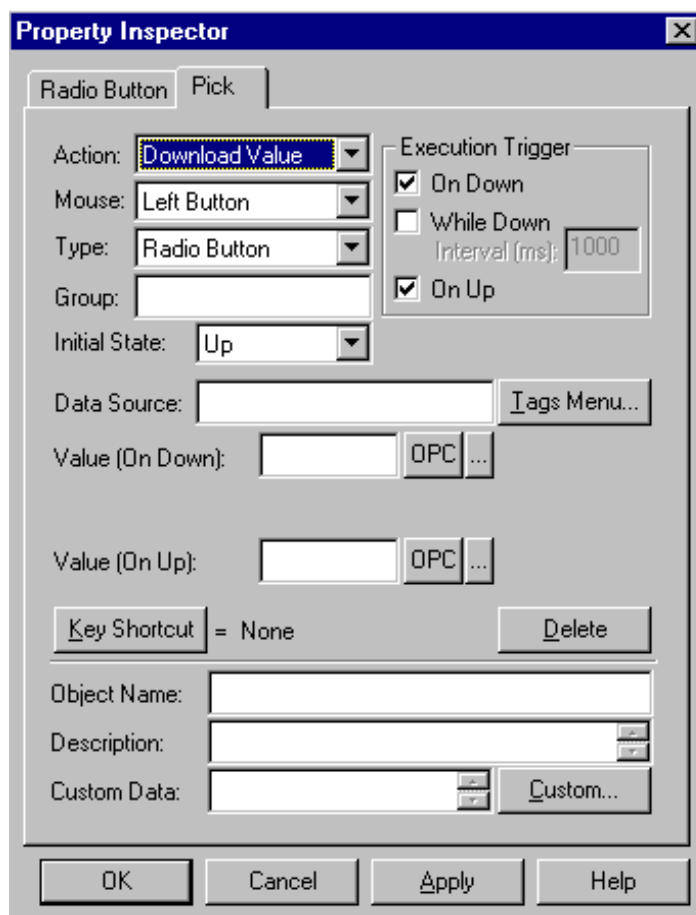

Figure 11-18: Property Inspector for Radio Button Dynamic
2. Click in the work area. The Property Inspector appears with tabs for Pick (same tab as the pick dynamic) and Radio Button (Figure 11-18).